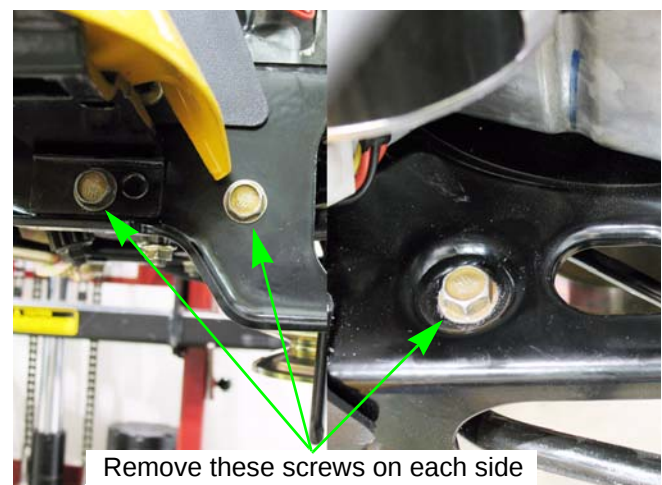

Figure 3.12
9. Remove the six screws that secure the steering plate to the frame. See Figure 3.12.
10. Remove the six screws that secure the steering plate to the frame. See Figure 3.12.